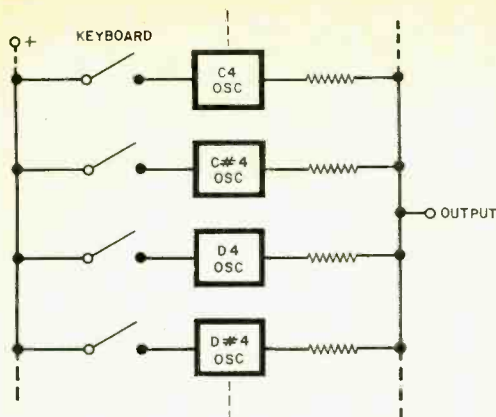
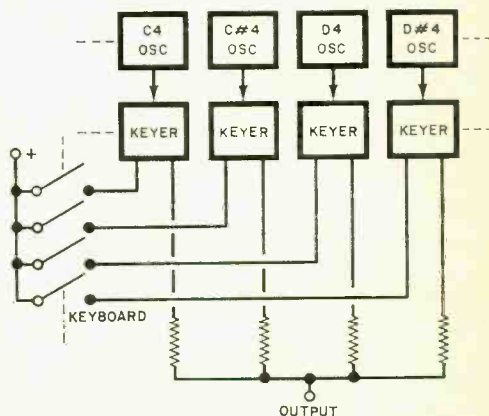

Fig. 1. Keying each oscillator individually is simple and eliminates crosstalk problems, but limits envelope characteristics.
Fig. 2. Separate keying offers more flexible envelope control but adds complexity.
**Separate Voicing.** In this type of pitch generation, an individual oscillator is used for each and every note and power is applied to only one oscillator at a time (Fig. 1); or a separate keyer is used for each note (Fig. 2). The first method has the advantages of using only dc voltage through the keyboard and the elimination of crosstalk since all the unused notes are off. Its disadvantages are that it is limited to very simple attack-sustain-decay shaping and it requires exceptionally good frequency-vs-supply-voltage performance during the rise and fall times.